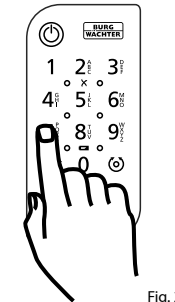

Fig. 2
- ② Enter your administrator or user code and check that the cylinder is activated (Fig. 2).
- 2 Insert the dowels supplied into the holes and screw in the screws provided (Fig. 2).